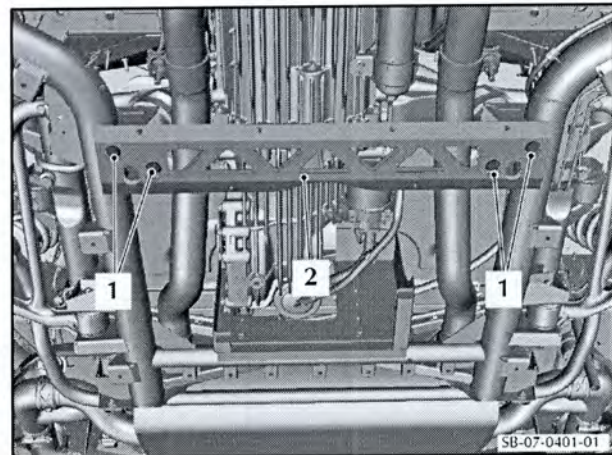

Figure 2
7. Hold the cross brace (2). Remove the four screws (1) that attach the cross brace (2) and remove the cross brace (2) (refer to Figure 2).